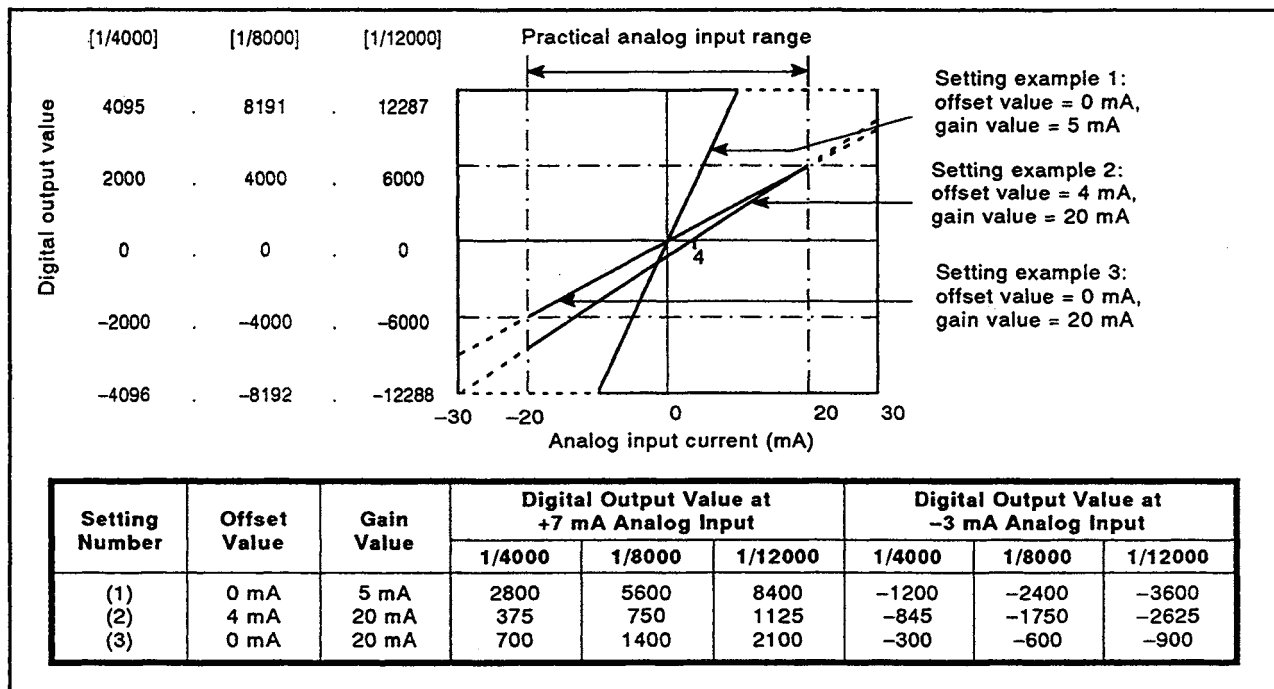

Fig 3.3 Voltage Input Characteristics
- (1) Do not input a voltage ± 30 mA or more. Otherwise, a high temperature will occur and cause a problem.
- (2) When the input voltage is from -20 to 20 mA, the maximum resolution and overall accuracy is in the range of specifications. However, if the input voltage is not within this range, the accuracy does not sometimes match with the specifications. (Do not use the value within the range corresponding to "-----" in the figure 3.3.)
- (3) When the analog is input, which causes the digital output value beyond the maximum (4095, 8191, or 12287) or minimum (-4096 , -8192 , -12288) of the digital resolution, the digital output value is fixed to the maximum (4095, 8191, or 12287) or minimum (-4096 , -8192 , or -12288) of the digital resolution.
- (4) Follow the conditions below to set the offset/gain. If the settings do not match these conditions, correct characteristics cannot be guaranteed. This disables the A-D conversion completed flag (Buffer memory address: 19) from turning ON.